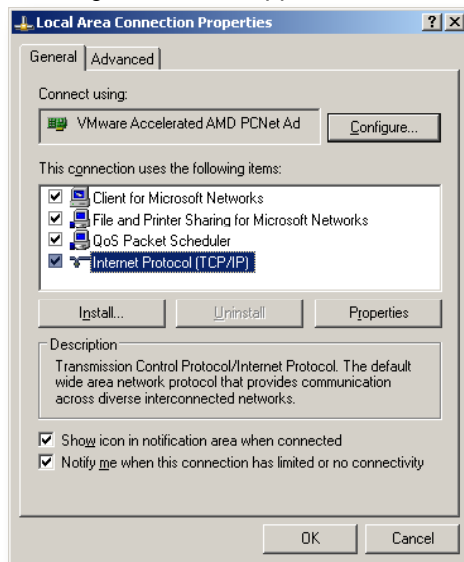

Fig. A-5 Configuring a network connection
3. Open the context menu of the corresponding network connection by right-clicking. Select the menu item Properties. In principle, you should now see the screen shown in Fig. A-5.